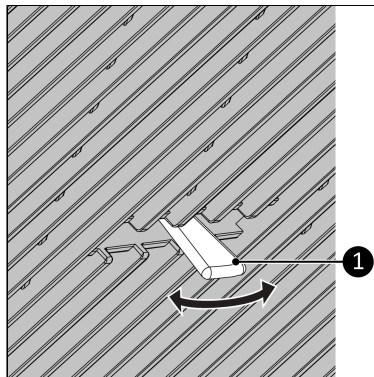

Figure 36.
2. Adjust the louvers by moving the handle left/right (Figure 36, pos. 1) to change the wind direction.